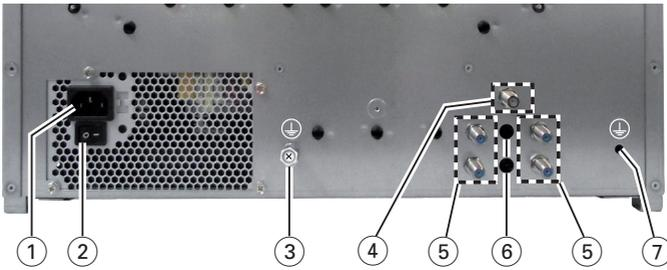

Fig. 22
- Connect the RF output of the head-end station (fig. 22, ④) to the cable network.